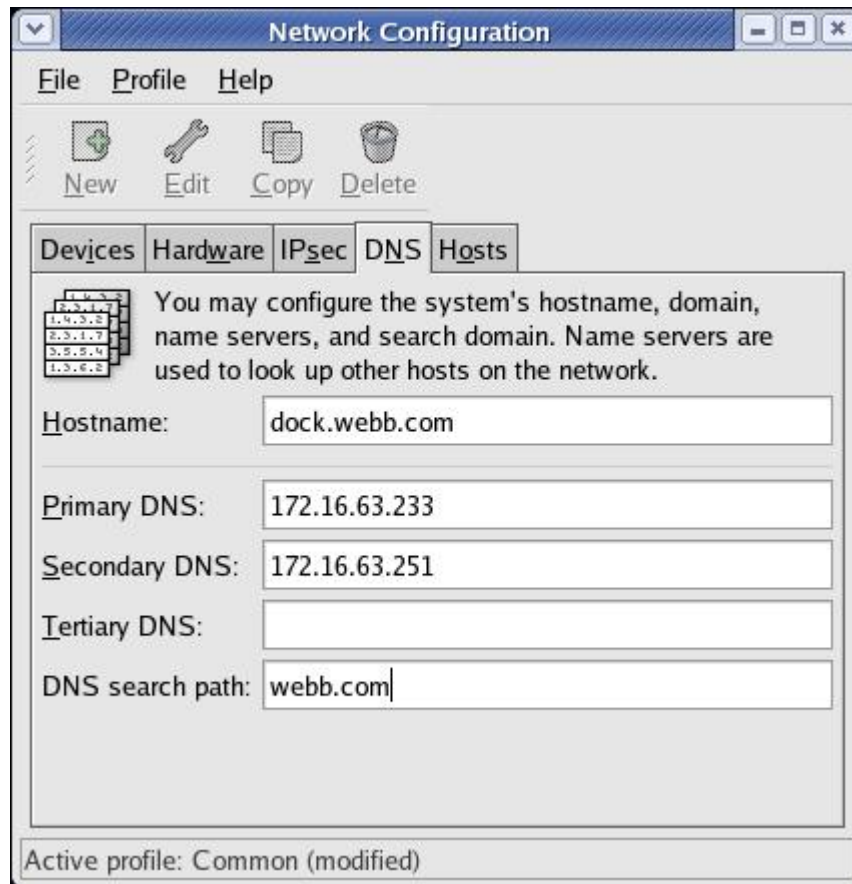

Figure 1-5. The DNS tab of the Network Configuration Dialog.
7. Select the “DNS” tab on the Network Configuration dialog. Enter the following information collected in step 1. Figure 1-5 shows the “DNS” tab with example information entered.